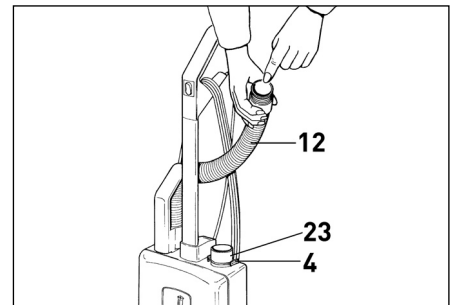

Figure 16
Clogs in the Attachment Hose - Figure 16
Remove attachment hose (12) from vacuum cleaner (see figure 16) and remove front cover (7). Clean out connecting tube (23) and/or entrance to bag (28).